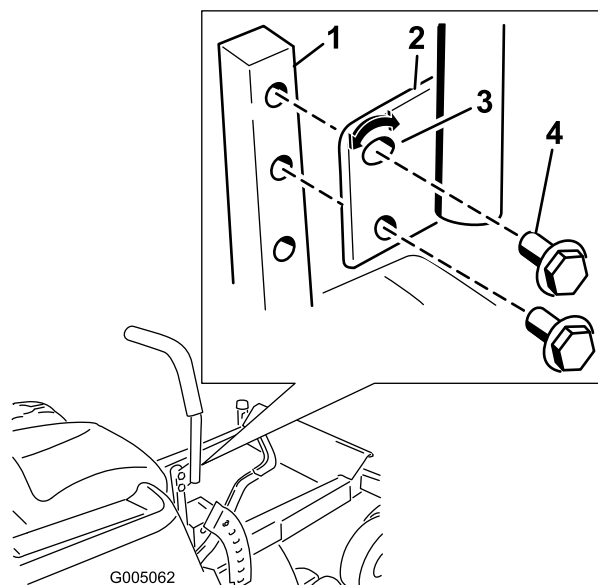

Figure 18
1. Remove the 2 bolts holding the control lever to the control arm shaft (Figure 18).
2. Move the control lever to the next set of holes. Secure the lever with the 2 bolts (Figure 18).
2. Loosen the lower bolt just enough to pivot the control lever fore or aft (Figure 18). Tighten both bolts to secure the control in the new position.